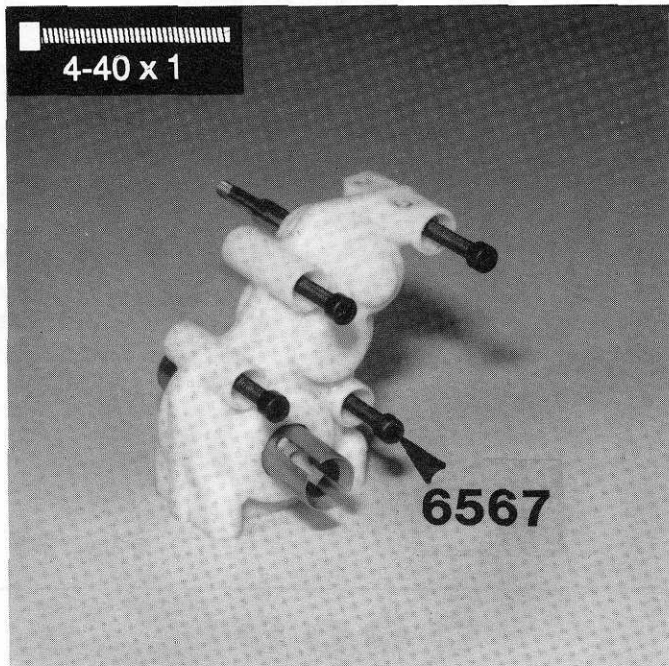

Fig. 65
□ **Fig. 65** From Bag F put the four 4-40 x 1" Allen head case bolts into the case from the left hand side. You'll have to screw them in. Screw in the bolts so they extend about 1/8" on the other side.